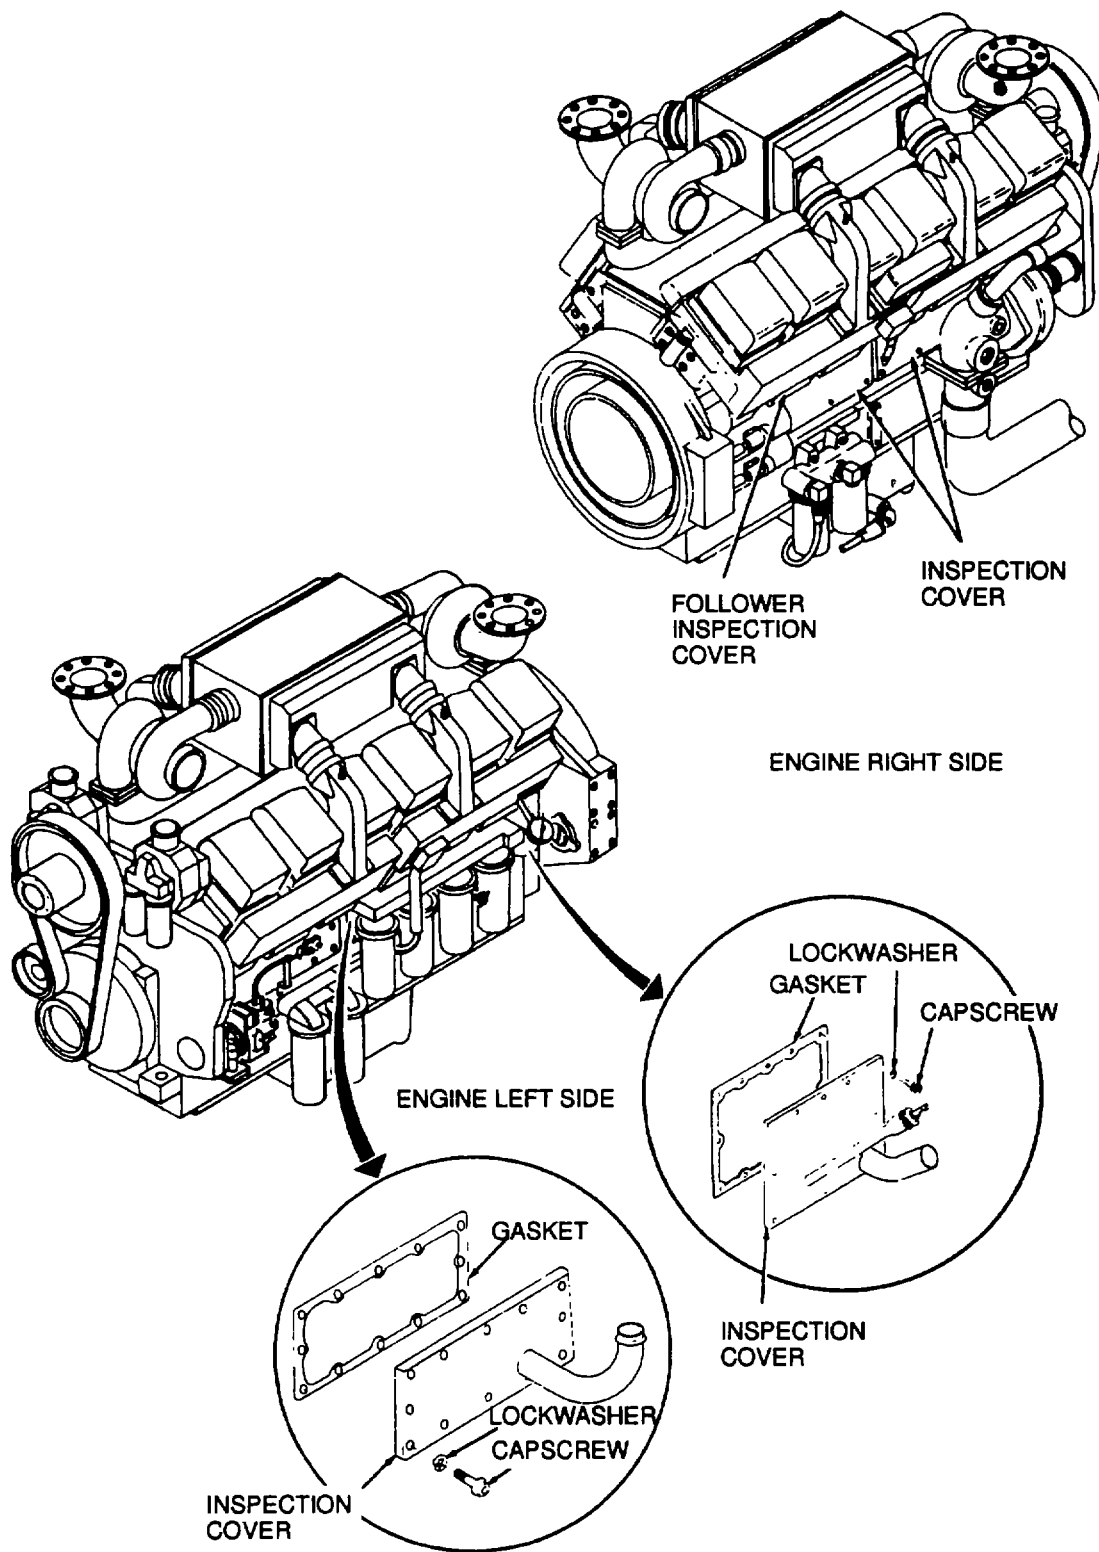

Figure 9-67. Inspection Covers
- (1) Remove each inspection cover (see Figure 9-67) by removing attaching capscrews and lockwashers.
- (2) Remove and discard the gasket. Clean all traces of the old gasket from the inspection cover and cylinder block.